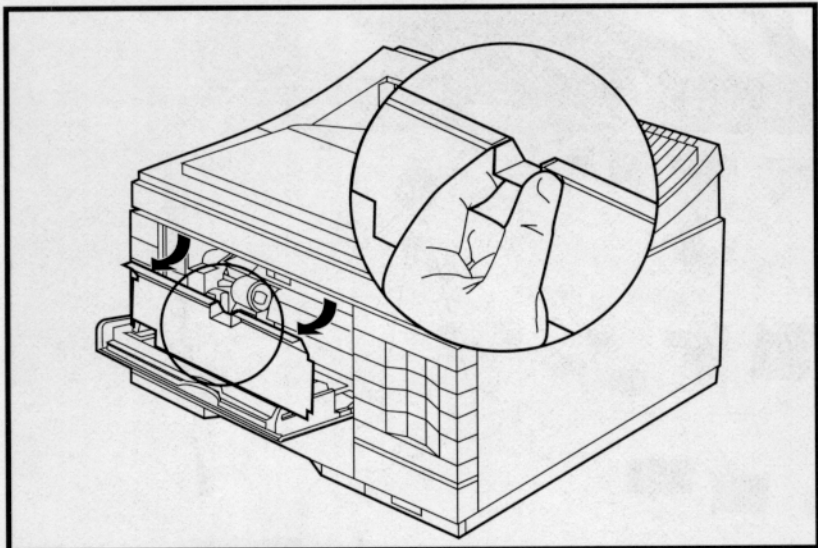

Figure 6-17 MP Tray Opening Cover
- 1** Remove the Right Side Cover, the MP opening cover, (see Figure 6-17), the Top Cover and the Left Side Cover, the Font Door Cover, and the PC tray (Tray 2). The MP tray need not be removed, but is shown removed for clarity.